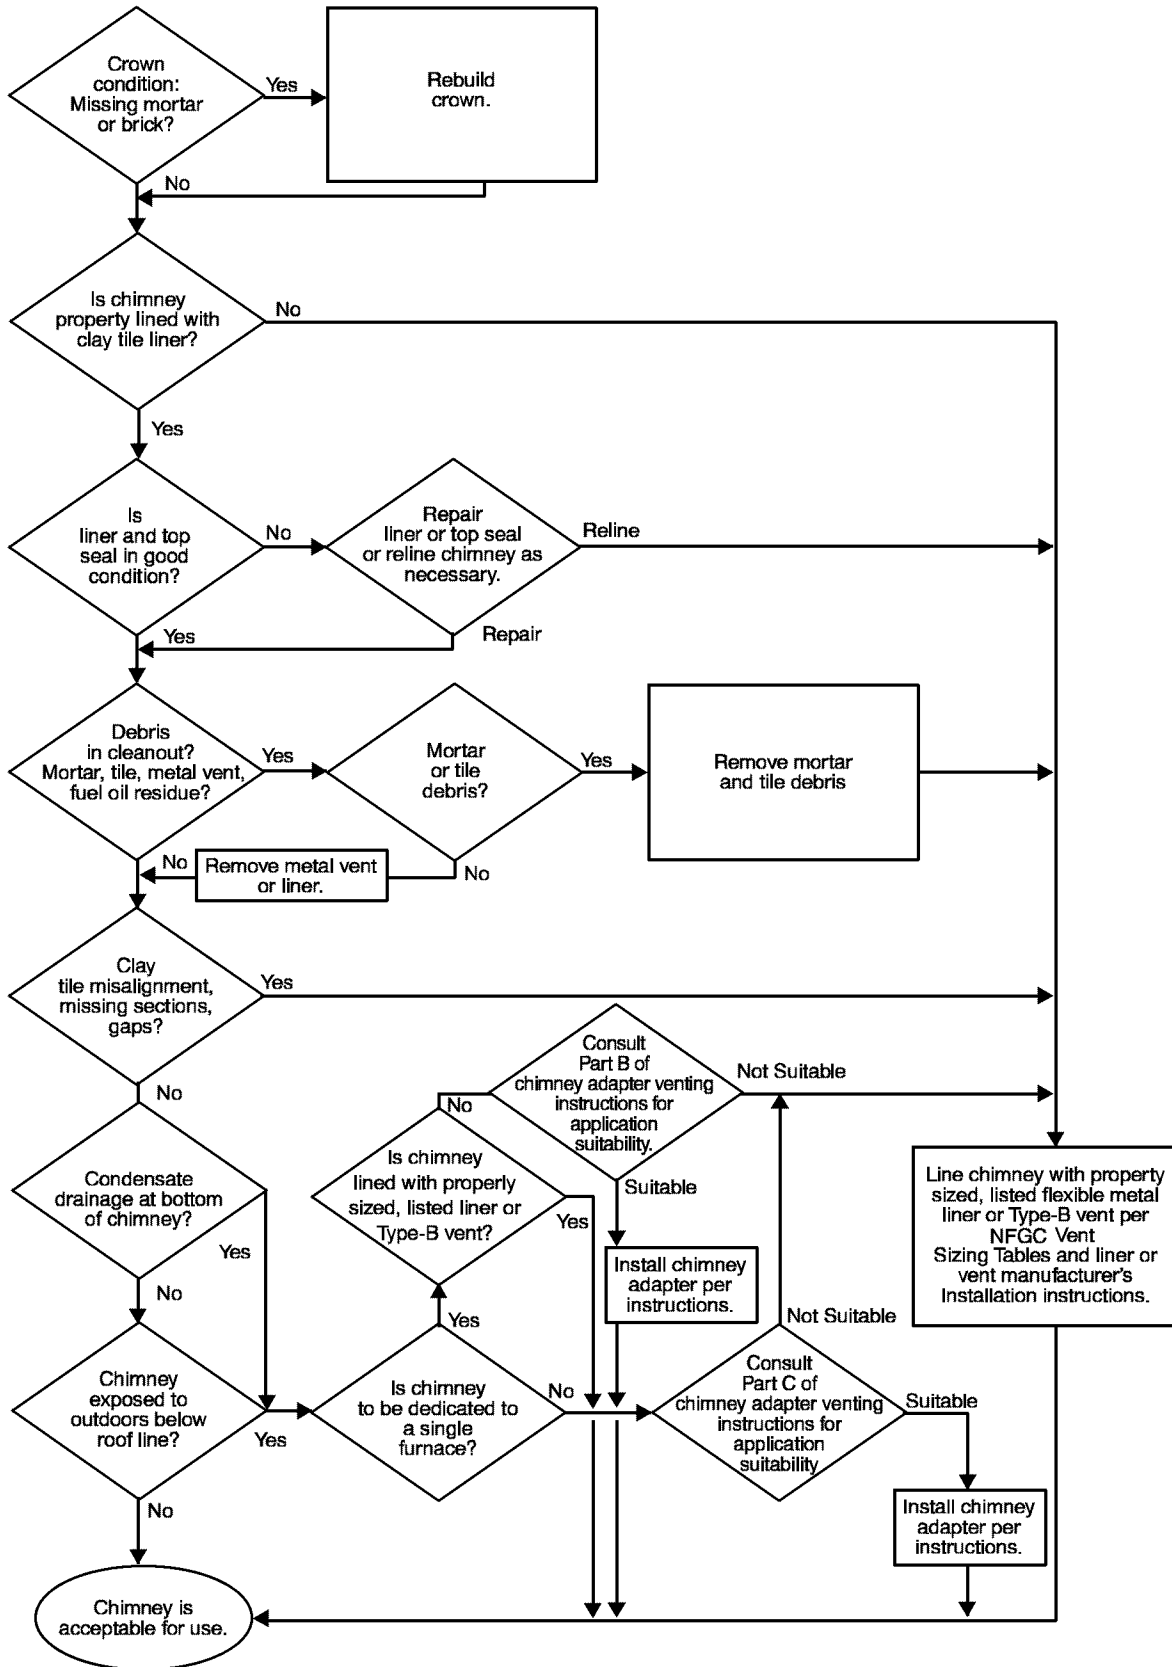

Fig. 27 – Chimney Inspection Chart
6. Do not vent this appliance into an unlined masonry chimney. Refer to Chimney Inspection Chart, Fig. 27.
Inspections before the sale and at the time of installation will determine the acceptability of the chimney or the need for repair and/or (re)lining. Refer to the Fig. 27 to perform a chimney inspection. If the inspection of a previously used tile-lined chimney: